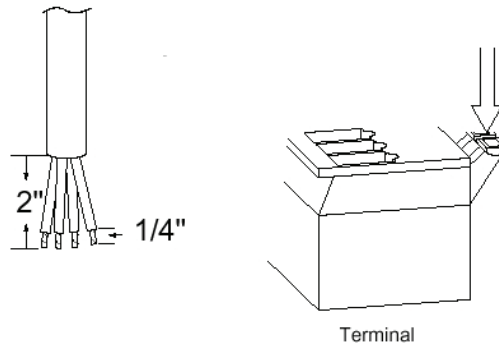

Figure No. 6
3. Remove 2" of the outer insulation jacket then remove 1/4" of insulation from each of the wires (refer to Figure No. 6).